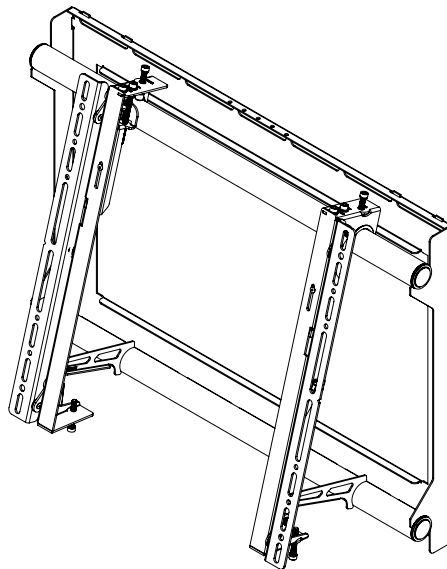

Figure 2
If the selected screw is longer than the 1/8" allowance mark on the small straw or toothpick, as shown in Figure 2 and Figure 3, do not use this screw. The screw length must not bypass the mark.
2. Tilt up the bottom of the flat-panel, then set their kickstands against the bottom tubing of the mount (Figures 2).